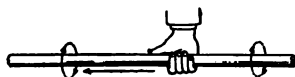

FIG. 231. — Thumb rule for magnetic field around a wire.
*If one grasps the wire with the right hand (Fig. 231) so that the thumb points in the direction of the current, the fingers will point in the direction of the magnetic field.*